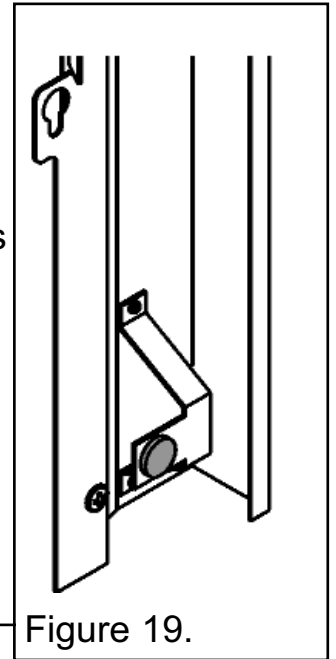

Figure 19.
1. The lower part of the fascia is held in place using two magnets. The magnets should sit on the brackets as in figure 19. If the magnets have moved during transit then place them as in figure 19.